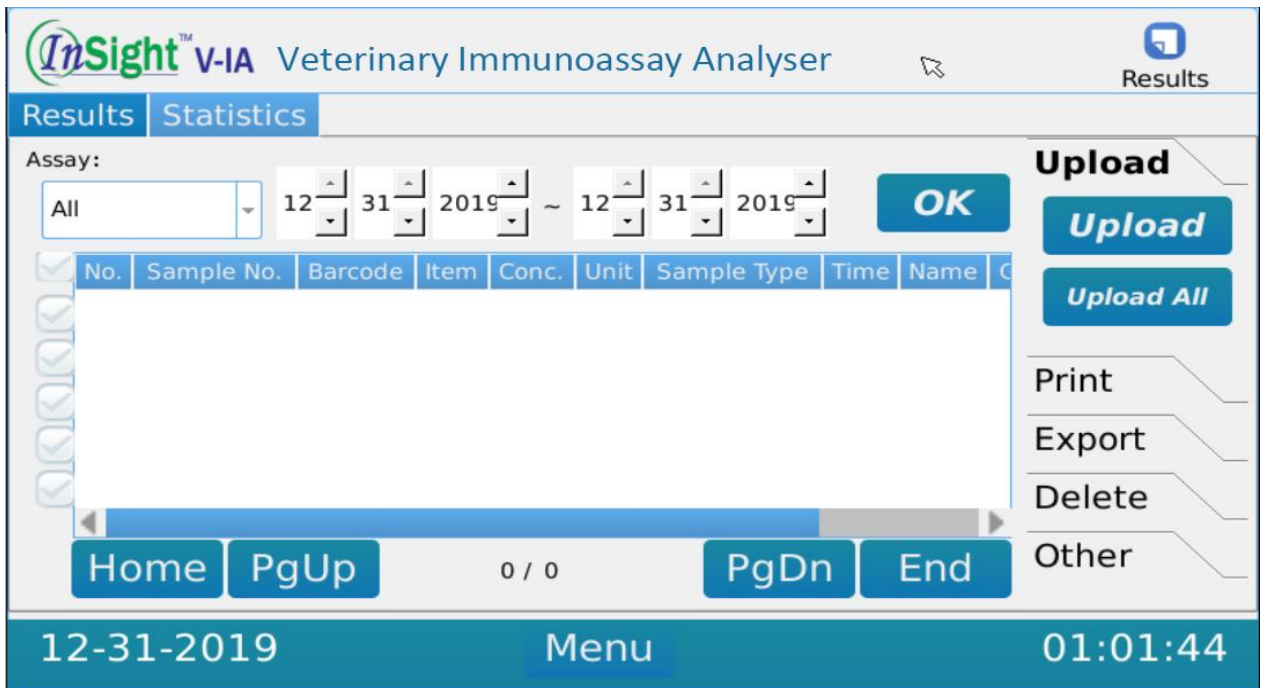

Figure 4.4.1
4. Select [Upload] in Figure 4.4.1 to upload the selected records or all records to the PNS.
5. Select [Print] in Figure 4.4.1 to print the selected records or all records on the internal printer.
6. Select [Export] in Figure 4.4.1 to export the selected records or all records to a USB.